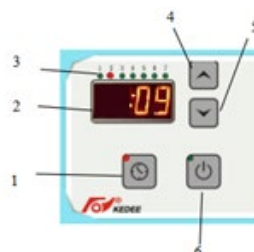

Fig. 6-3
- Click 🕒 Key (1) to accept the hour selection and then select the minute by using Key (4) or (5) (Fig. 6-3);